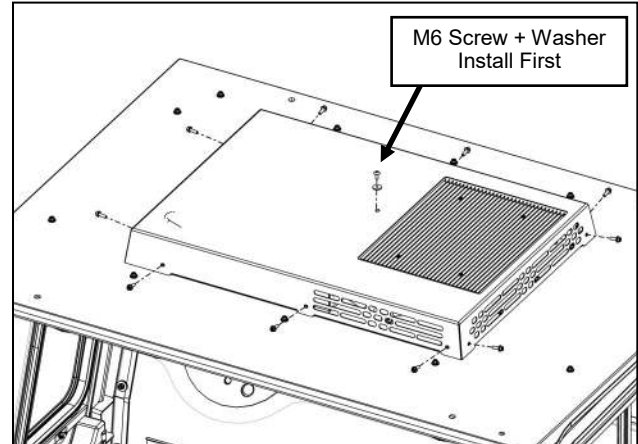

Fig. 6.2 A/C Cover Fasteners
- 6.2 Per Figure 6.2, re-install cover to air conditioner. Use anti-seize on all screws and bolts when fastening the cover. Poke a hole through the insulation and install the M6 screw first, then re-install the 1/4-20 bolts. Tighten 1/4-20 bolts to 5 ft-lbs and tighten M6 screw until the rubber washer begins to bulge.